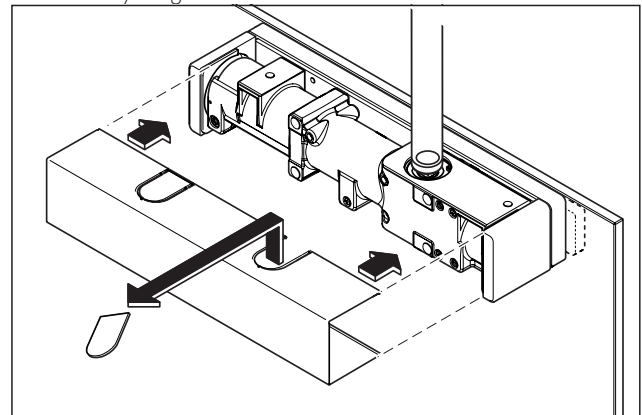

Fig. 13 Mount the cover plate
- Prepare the cladding for mounting and attach it to the assembly. (Fig. 13)